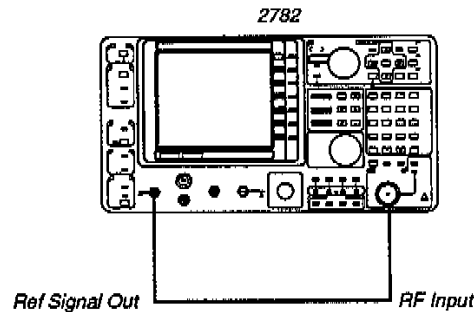

Figure 2-9. Test Setup for Center Frequency Accuracy Check
- b. Connect a 50 Ω cable from the REF SIGNAL OUT connector of the 2782 to the RF INPUT connector (as shown in Figure 2-9).
- b. The 2782 calibrator signal should still be connected to the RF INPUT connector from the last check. If it is not, connect a 50 Ω cable from the REF SIGNAL OUT connector to the RF INPUT connector (as shown in Figure 2-9).
- b. Connect a 50 Ω cable from the 2782 REF SIGNAL OUT connector to the RF INPUT connector (as shown in Figure 2-9).
- f. Disconnect the signal generator from the 2782, and connect a 50 Ω cable from the REF SIGNAL OUT connector to the RF INPUT connector (as shown in Figure 2-9).
- b. Connect a 50 Ω cable from the REF SIGNAL OUT connector to the the RF INPUT connector (as shown in Figure 2-9).